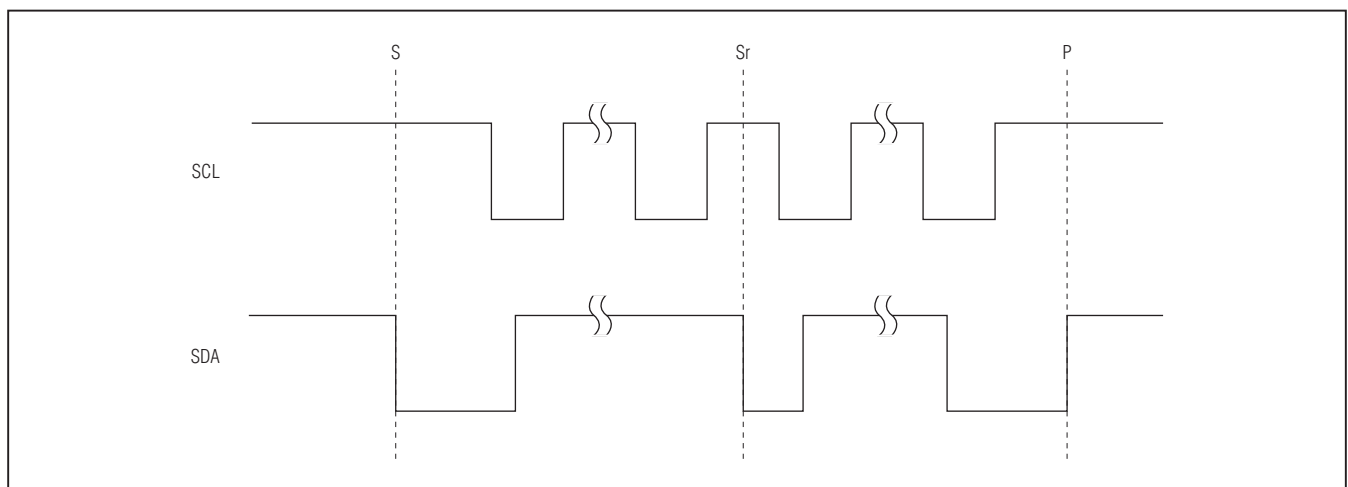

Figure 17. I2C START, STOP, and Repeated START Conditions
When writing to the device using I2C, the master sends a START condition (S) followed by the MAX3108A I2C address. After the address, the master sends the register address of the register that is to be programmed. The master then ends communication by issuing a STOP condition (P) to relinquish control of the bus, or a repeated START condition (Sr) to communicate to another I2C slave. See Figure 17.